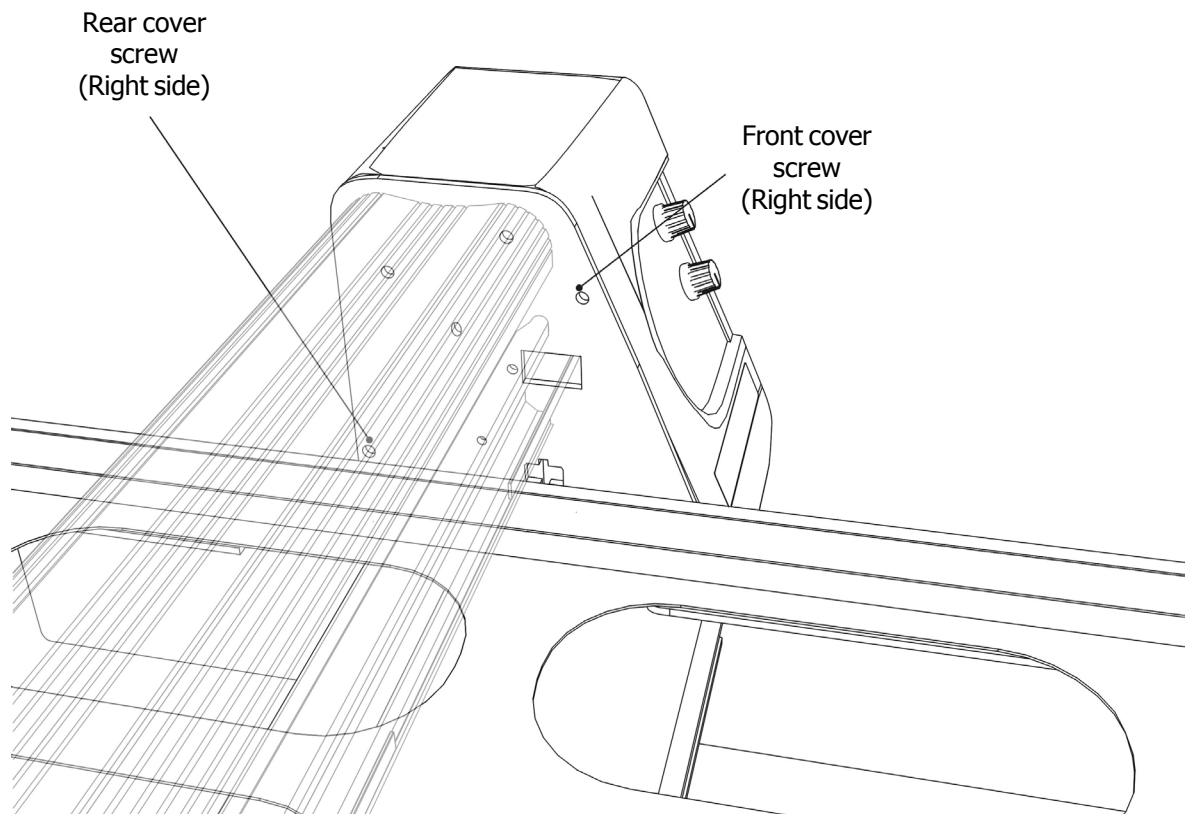

**Fig. 5-2** Right side cover screws (Black Phillips head)
2. Remove the two phillips head screws, and the single phillips head screw on the bottom of the cover, then remove the right cover. To access the rear screw, you will have to move the tray forward. *See figure 5-2 below.*